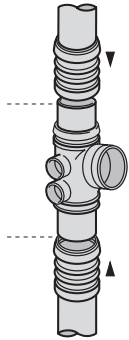

Fig.5c Initial assembly
**Step 5** – Assemble new unit with a short length of pipe in appropriate sockets (Fig.5c)